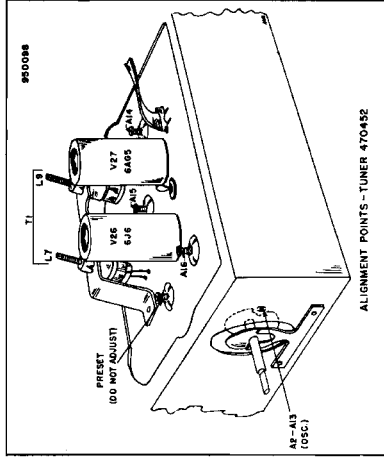
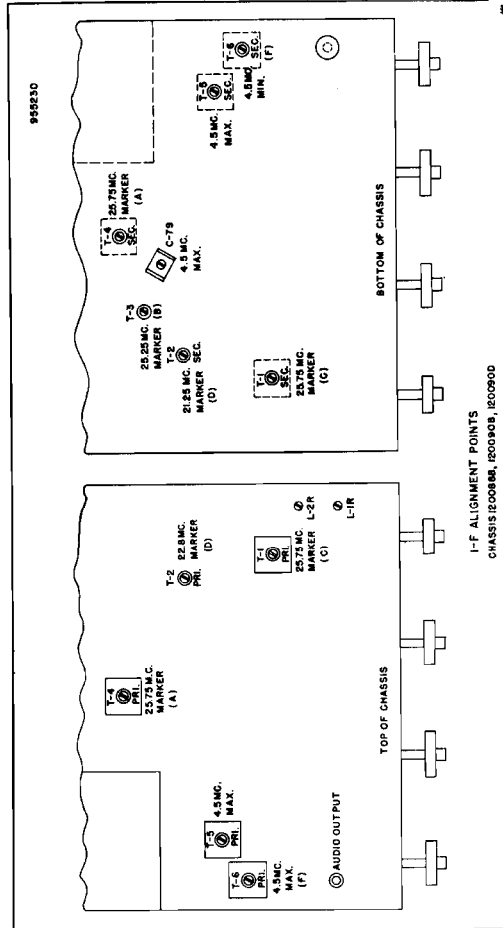
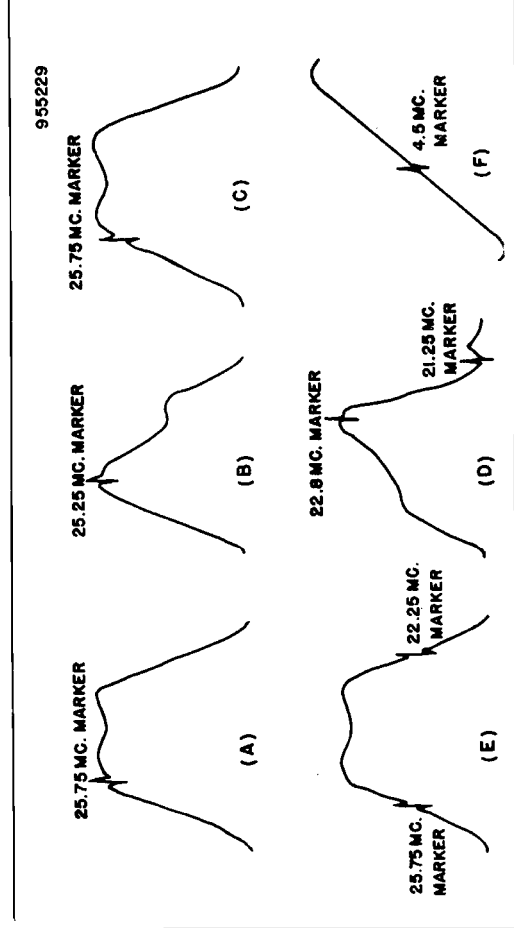

Figure 5-12—Location of Alignment Points—Tuner 470432
Figure 5-10—Location of Alignment Points—Chassis 120088B, 120090B, 120090D
Figure 5-11—I-F Response Curves—Chassis 120088B, 120090B, 120090D
- 2) Refer to figure 5-10 for location of alignment points and figure 5-11 for response curves.
- 5) Refer to figure 5-12 for location of alignment points.
- 1) Waveforms shown may be inverted, depending on the number of amplifying stages in the vertical amplifier of the scope being used. See figure 5-11.
- 4) Refer to figure 5-10 for location of alignment points and to the schematic diagram, figure 5-12, for location of chassis reference points.